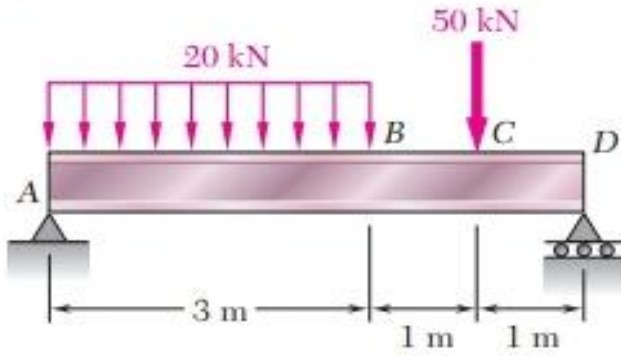

Figure 6
- c. A 5-m-long, simply supported steel beam AD is to carry the distributed and concentrated loads shown in Figure 6. Given that the allowable normal stress for the grade of steel to be used is 160 MPa, select the wide-flange shape that should be used (use table 1 for selection of the flange shape). (15 marks)